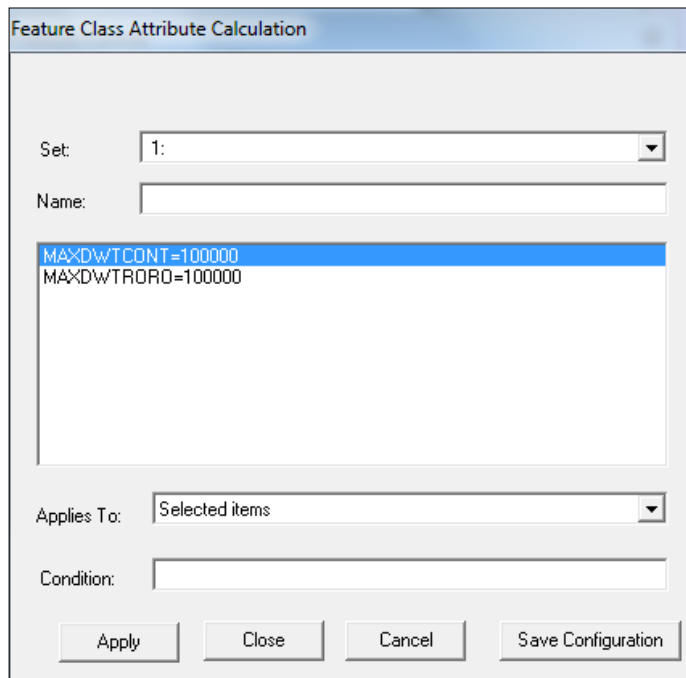

Figure 76 The Feature Class Attribute Calculation window
- 6) Select Node -> Compute and type in the equations by right-clicking in the largest field (in the middle) and select "Insert" (e.g., MAXDWTRORO=100000, see Figure 76 The Feature Class Attribute Calculation window. To see the available parameters, right-click in the blank field in the Insert Equation window) and select which items the edits should apply to (all or selected). Click "Apply". When finished, click "Close"